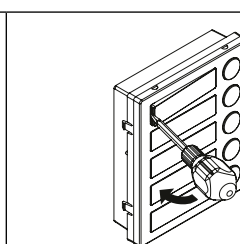

Fig. 2
- Move the screwdriver to the left as shown in **Fig. 2** to extract the card name holder;